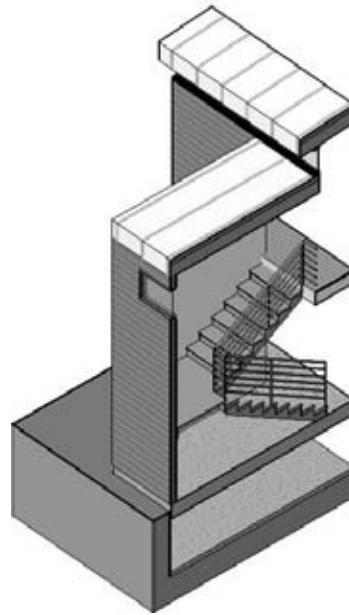

Figure 4.126
6. To see the stair in 3D, press Shift+middle mouse button, and slowly spin the model (see Figure 4.126).